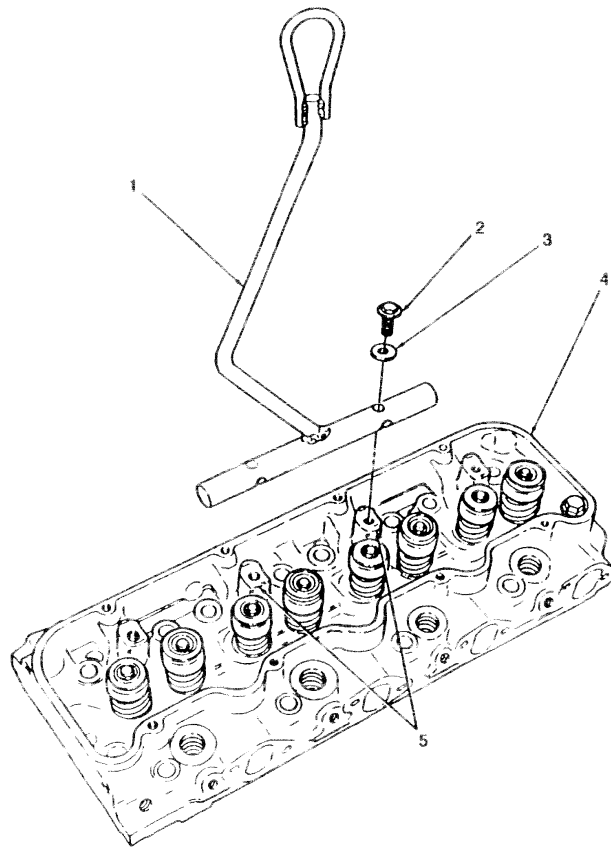

FIGURE 3-22
2. Install cylinder head lifting device (1) on center two rocker arm saddles (5) of left or right cylinder head (4) with two NSN 5310-01-186-1254 washers (3) and existing screws (2) used to secure rocker arm assembly to cylinder head (4). (see figure 3-22)
4. Remove two screws (2), washers (3), and cylinder head lifting device (1) from rocker arm saddles (5).